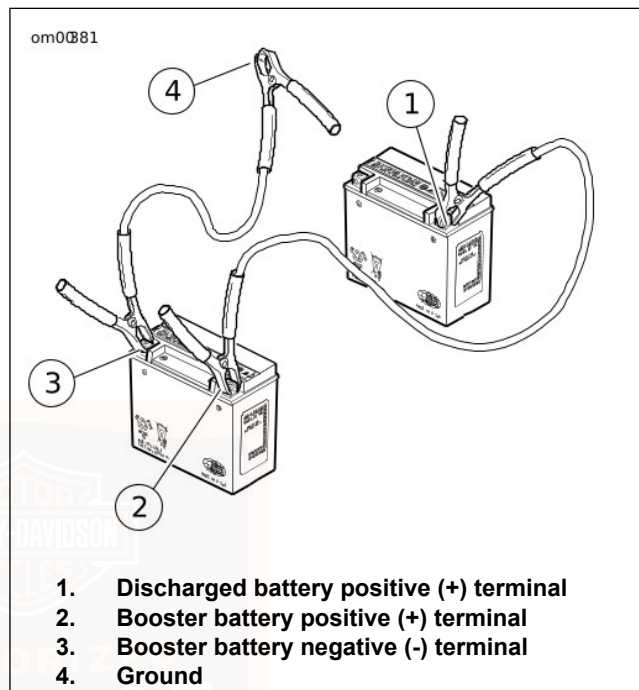

Figure 73. Jump Start Cable Connections
1. See Figure 73. Connect one end of a jumper cable to the DISCHARGED battery positive (+) terminal (1).
2. Connect the other end of the same cable to the BOOSTER battery positive (+) terminal (2).